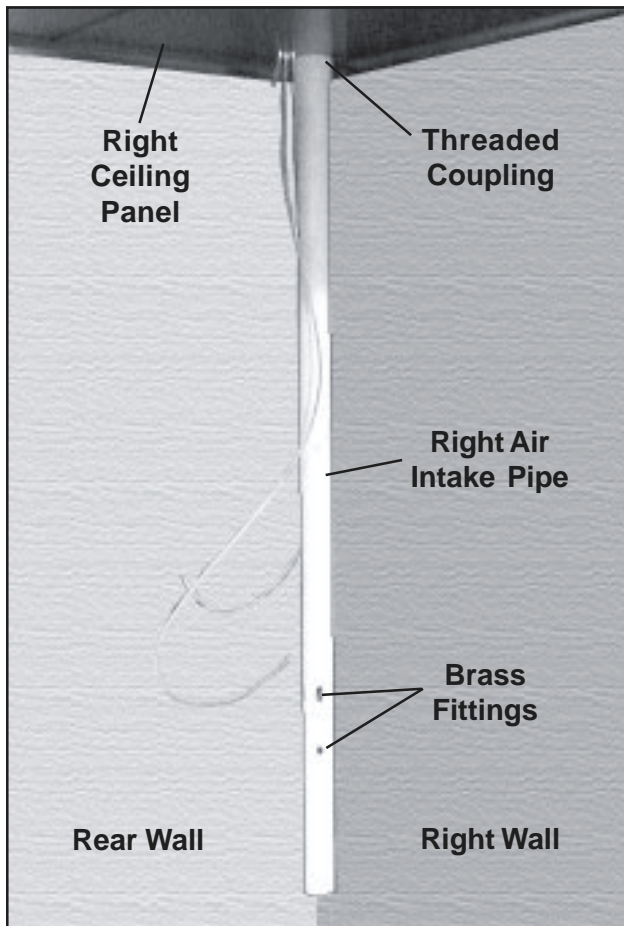

Figure 79. Right Air Intake Pipe
4. Unscrew the pipe from the threaded coupling (Figure 79) and discard it.
1. Screw the female threaded coupling on the new right air intake pipe onto the male threaded coupling in the right ceiling panel (Figure 79). Make sure the air fittings are easily accessible so you can connect the air sensor lines.
3. Unscrew the pipe from the threaded coupling (Figure 79) but DO NOT discard it.
4. Unscrew the pipe from the threaded coupling (Figure 79) but DO NOT discard it.